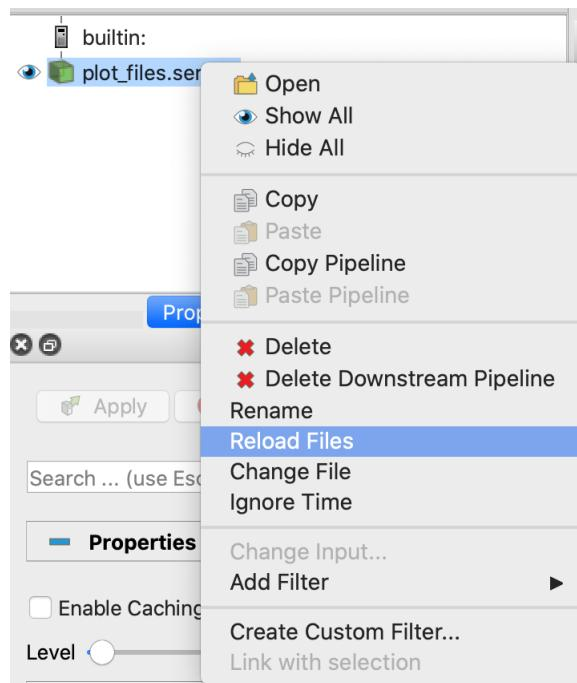
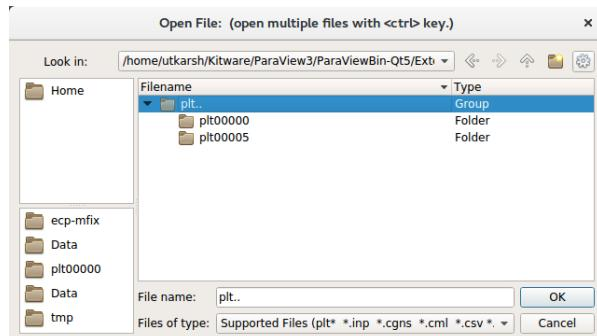

Fig. 18.2: : File dialog in ParaView showing how to reload a series file
Fig. 18.3: : File dialog in ParaView showing a group of plotfile directories selected
2. Navigate to your run directory, and select the fluid or particle plotfile. Note that you can either open single/multiple plotfile(s) at once by selecting them one by one or select an ensemble of file, labelled as `plt..` and indicated as a Group in the “Type” column of the file explorer (see Fig. 18.3). In the later case, Paraview
Open ParaView, and then select “File” → “Open”. In the “Files of Type” dropdown menu (see Fig. 18.3) choose the option All Files (\*). Then choose `plot_files.series` and click “OK”. Now the plotfiles have been loaded as a Group as in Step 2 of section *ParaView*. Now, you can follow the steps 2 to 7 in the section *ParaView* to plot. As new plotfiles are generated, just re-run the bash script to re-generate the `plot_files.series` file, right-click on `plot_files.series` in the ParaView menu, and click on “Reload Files” (see Fig. 18.2).
1. Run ParaView v5.7, and select then “File” → “Open”. You will see a combined “plt..” group. Click on “+” to expand the group, if you want inspect the files in the group. You can select an individual plotfile directory or select a group of directories to read them a time series, as shown in Fig. 18.3, and click OK. ParaView will ask you about the file type – choose “AMReX/BoxLib Particles Reader”.